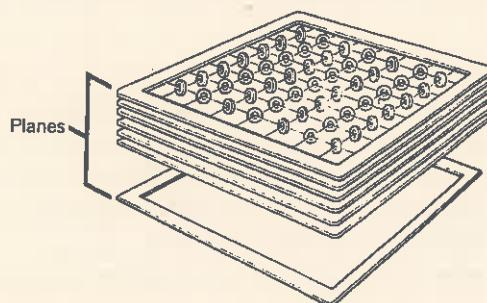

Fig. 36.24. Core stack.
(1) Magnetic core memory
- A magnetic core is molded from a ferrite (iron) powder into a doughnut shape about the size of the head of a pin. The individual cores are stung on wires to form core planes. Several core planes stacked one on top of another form a core stack (Fig. 36.24).